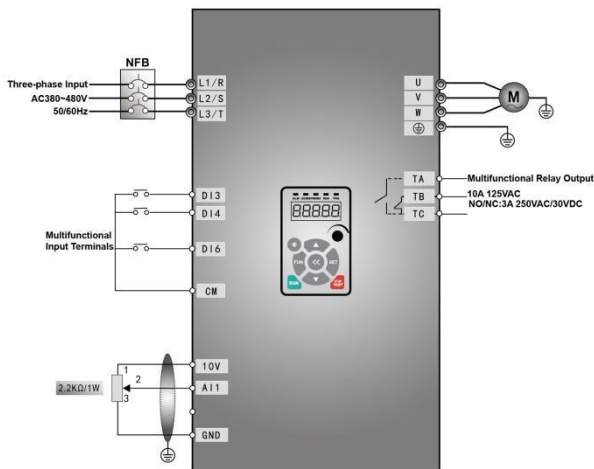

Fig 5-9 Wiring Diagram 3
(1) Connect the wires in accordance with Figure 5-9. After having checked the wiring successfully, switch on the circuit breaker, and power on the inverter. Note: 2K~5K potentiometer may be adopted for setting external analog signals. For the cases with higher requirements for precision, please adopt precise multiturn potentiometer, and adopt shielded wire for the wire connection, with both ends of the shielding layer grounded reliably.